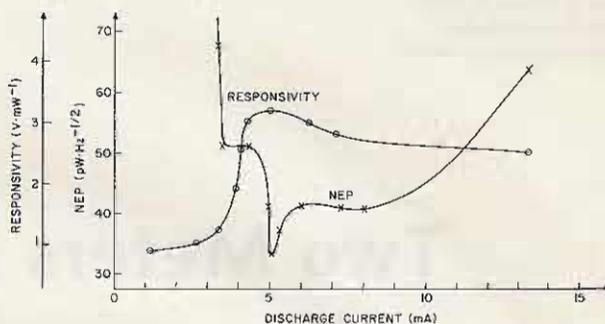

Fig. 2. Responsivity and NEP for X-band radiation as a function of discharge current (I) in the NE-84 glow lamp.
Fig. 1 shows the basic set-up for experimenting with glow-lamp detectors. The power supply should be well regulated and have a low noise level. The glow tube is positioned in front of the radiation source and connected through a preamplifier to an oscilloscope. The radiation source should be modulated with a function generator or mechanical chopper (fan with metal blades). The bias on the glow tube should be adjusted to a value appropriate to the particular tube you are using. Table 1 lists almost all the common types.⁴ Fig. 2 shows typical detector responsivity (R) plotted against discharge current (I).⁴ Sensitivity is affected by orientation of the lamp in the microwave field. In addition, the diameters of the lamps are about three times the electrode separation — the sensitive detecting area is, therefore, a small part of the lamp cross section. Radia-